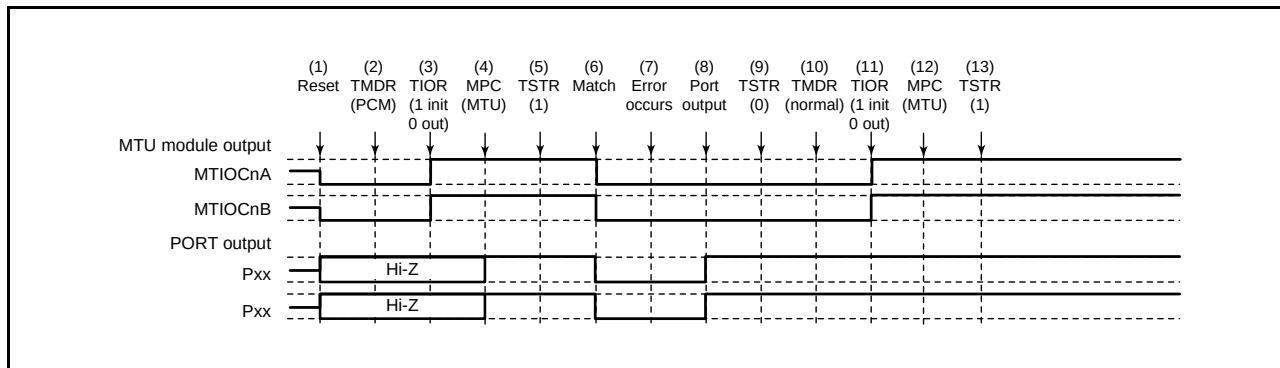

Figure 23.132 Error Occurrence in Phase Counting Mode, Recovery in Normal Mode
Figure 23.132 shows a case in which an error occurs in phase counting mode and operation is restarted in normal mode after re-setting.
(1) to (9) are the same as in Figure 23.132.
(10) Set PWM mode 1.
(11) Initialize the pins with the TIOR register. (In PWM mode 1, a waveform is not output on the MTIOCnB (MTIOCnD) pins. If a level is to be output, make the required general output port settings in the I/O port's port direction register (PDR) and port output data register (PODR).)
(12) Use the MPC and the port mode register (PMR) for the I/O port to set up MTU output.
(13) Restart operation by setting the TSTR register.
(19) Operation When Error Occurs in Phase Counting Mode and Operation is Restarted in PWM Mode 2
(10) Set PWM mode 2.
(20) Operation When Error Occurs in Phase Counting Mode and Operation is Restarted in Phase Counting Mode
(10) This step is not necessary when restarting in phase counting mode.
(11) Initialize the pins with the TIOR register.
(21) Operation When Error Occurs in Complementary PWM Mode and Operation is Restarted in Normal Mode